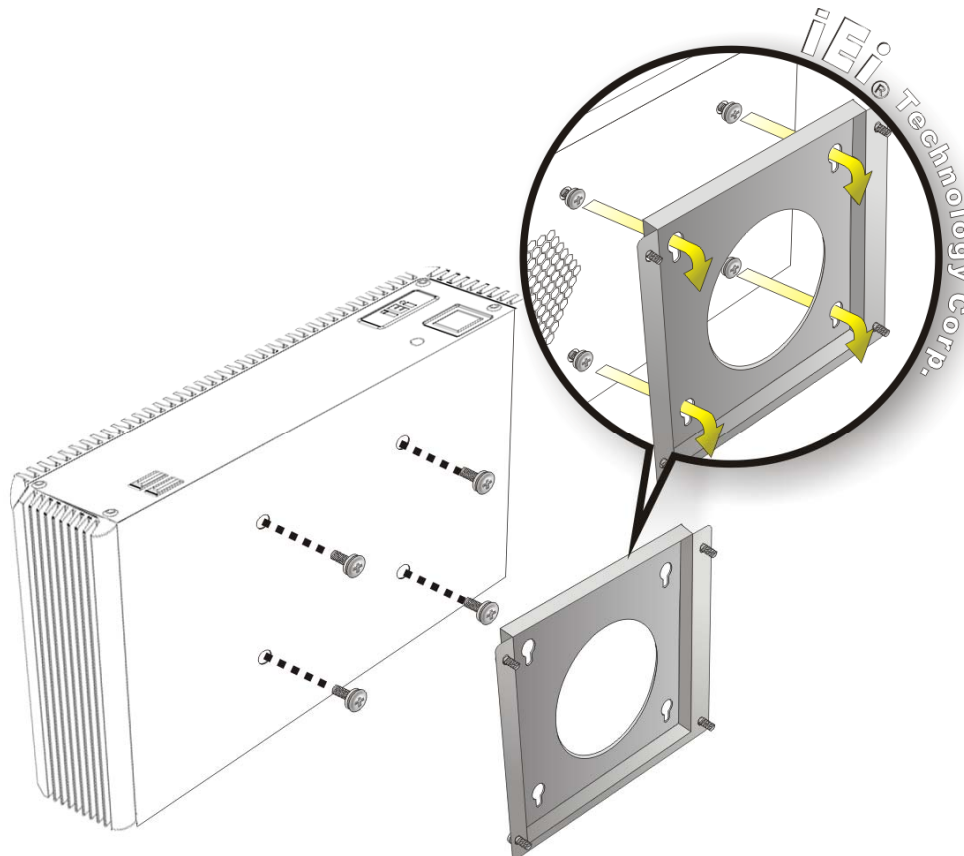

Figure 4-13: Mount the Embedded System
- Step 6:** Insert the four monitor mounting screws provided in the wall mounting kit into the four screw holes on the bottom panel of the system and tighten until the screw shank is secured against the bottom panel (760H760H Figure 4-13).
- Step 8:** Carefully insert the screws through the holes and gently pull the monitor downwards until the ECW-281B/B2-D525 rests securely in the slotted holes (**Figure 4-13**). Ensure that all four of the mounting screws fit snugly into their respective slotted holes.